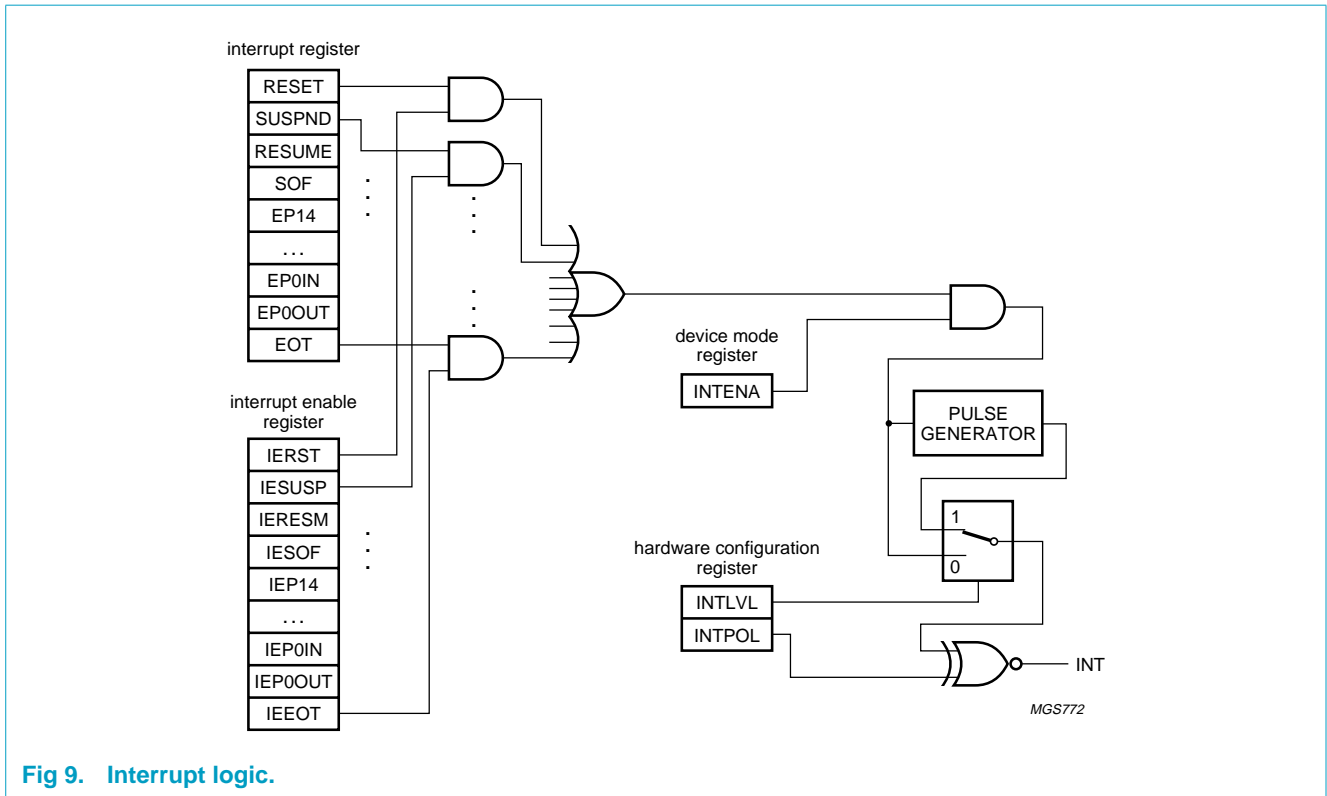

Fig 9. Interrupt logic.
**Figure 9** shows the interrupt logic of the ISP1181. Each of the indicated USB events is logged in a status bit of the Interrupt Register. Corresponding bits in the Interrupt Enable Register determine whether or not an event will generate an interrupt.